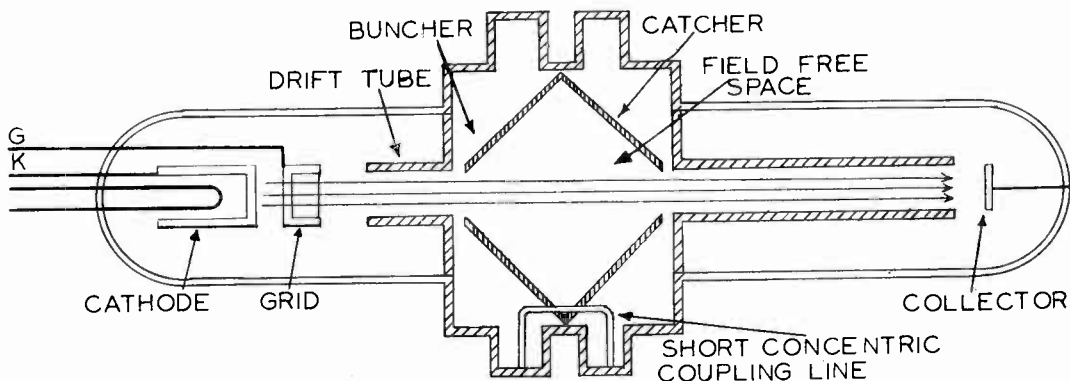

FIG. 10. The Klystron tube. The details of this marvelous high-frequency generator are shown in this sketch.
Such cavity resonators have been used as the tuned circuits of the buncher and catcher. The type of cavity resonator used in the klystron is called a *rhumbatron* and is illustrated in Fig. 10.
d.c. accelerating voltage an alternating voltage high enough to make certain the resultant pulsating voltage will pass through one of the ranges in klystron voltages in which oscillation can occur. The buncher is customarily coupled to the catcher through a short concentric line as shown in Fig. 10.